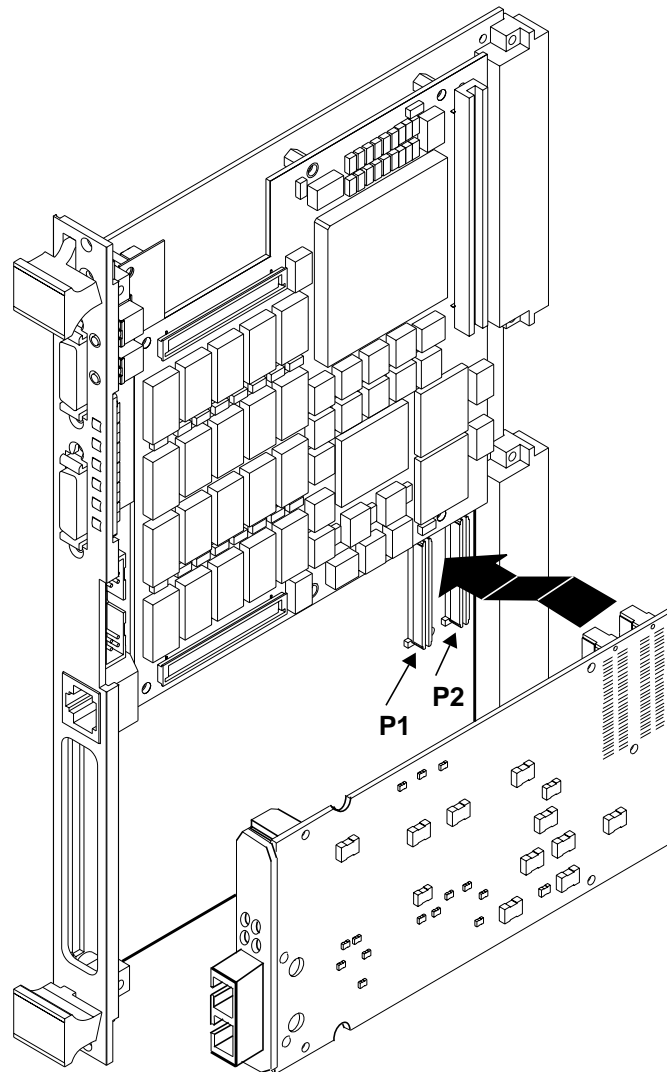
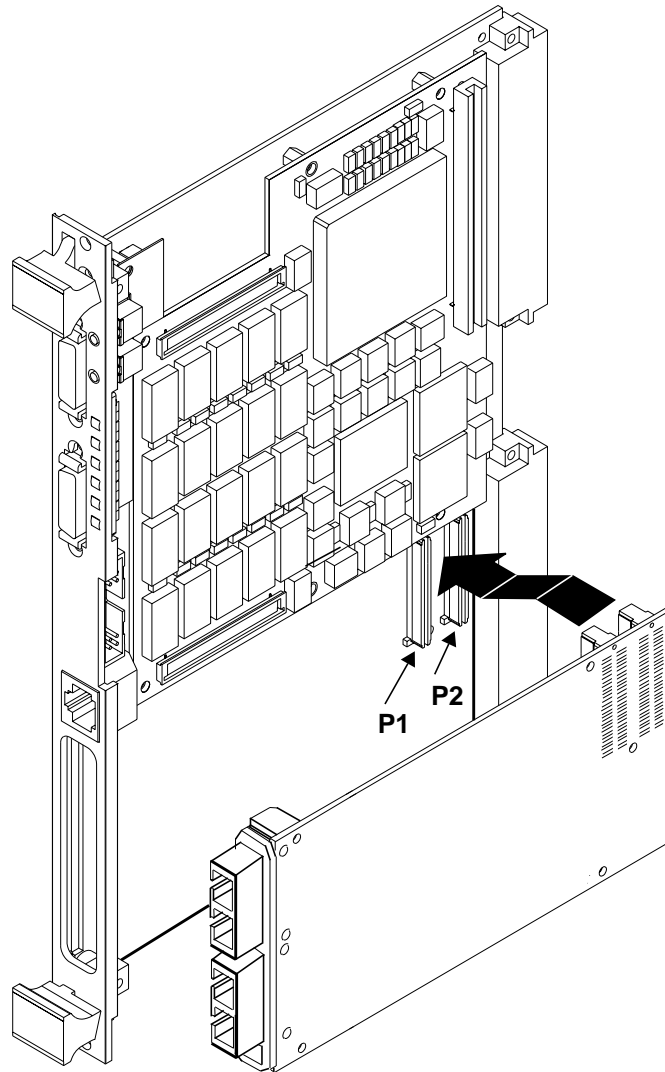

Figure 2-1. Installing a PB04511-000 PMC Adapter
Figure 2-2. Installing a PB04511-002 PMC Adapter
5. Install the adapter as follows (Figure 2-1 on page 9 and Figure 2-2 on page 10 illustrate the installation of a PMC adapter on a typical motherboard):